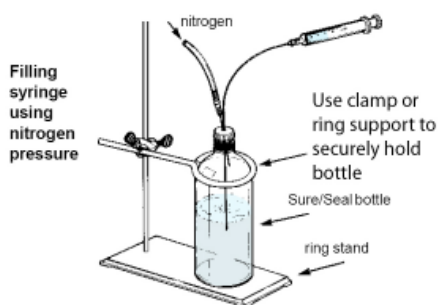

Fig.2A Filling syringe using nitrogen pressure
- This will allow the liquid to slowly fill the syringe (up to 100mL) as shown in **Fig. 2A**. Pulling the plunger causes gas bubbles.